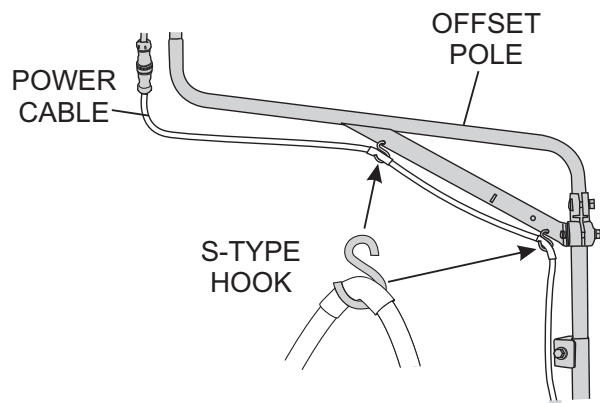

Figure 30. Attachment of S-Hooks
2. Attach both S-type hooks (Figure 30) on the AC power cable into the cable support holes on the offset pole.